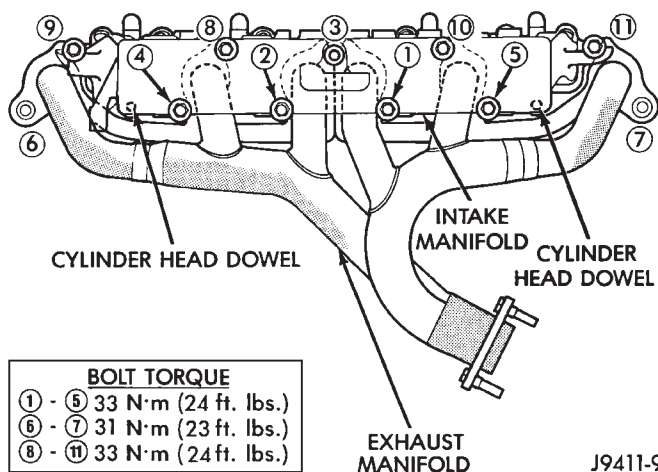

Fig. 13 Intake/Engine Exhaust Manifold Installation (4.0L Engine)
- (1) Install a new exhaust/intake manifold gasket over the alignment dowels on the cylinder head.
- (2) Position the engine exhaust manifold to the cylinder head. Install fastener No.3 and finger tighten at this time (Fig. 13).
- (3) Install intake manifold on the cylinder head dowels.
- (4) Install washers and fasteners Nos.1, 2, 4, 5, 8, 9, 10 and 11 (Fig. 13).
- (5) Install washers and fasteners Nos.6 and 7 (Fig. 13).
- (6) Tighten the fasteners in sequence and to the specified torque (Fig. 13).